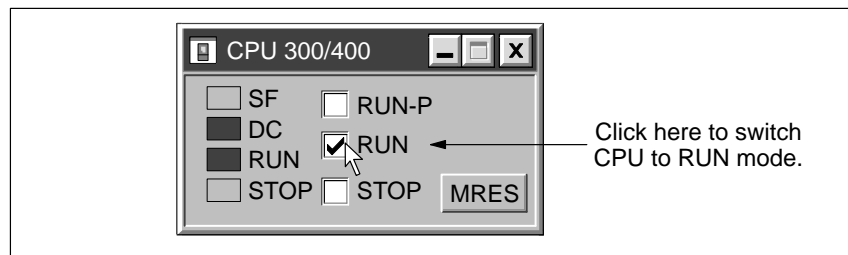

Figure 2-4 Selecting RUN Mode
1. Click the RUN check box in the CPU view object. See Figure 2-4.